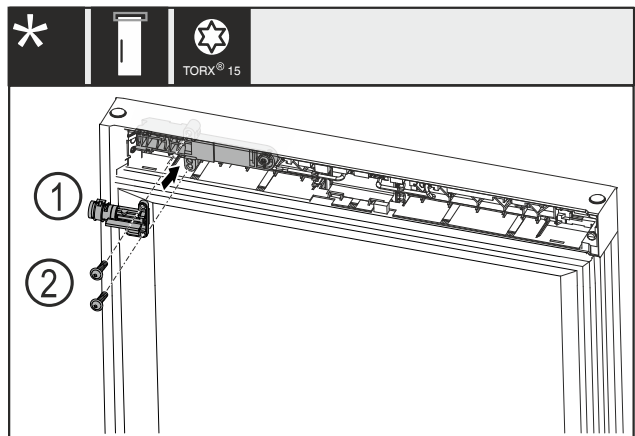

Fig. 13
- Turn the mechanical lock Fig. 13 (1) by 180° and attach on the opposite side.
- Fasten the mechanical lock Fig. 13 (1) with screws Fig. 13 (2).